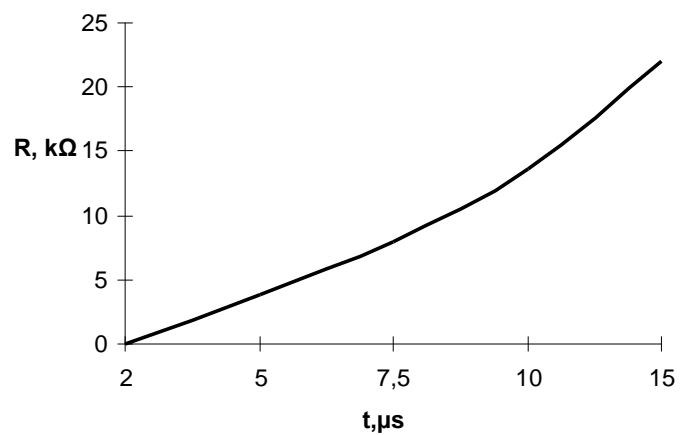

Figure 10 – “Dead” time duration versus trimming resistor R_{TD} nominal
If there is no any need for increasing of switching delay time, then you shall install the jumpers instead of resistors. The dependence of delay time on the resistor nominal is shown at Figure 10. Initially the resistors with 1 Ω nominal are installed that corresponds to minimum “dead time” (2 μ s).
- set up “dead time” by Rdt resistors in compliance with the Figure 10;